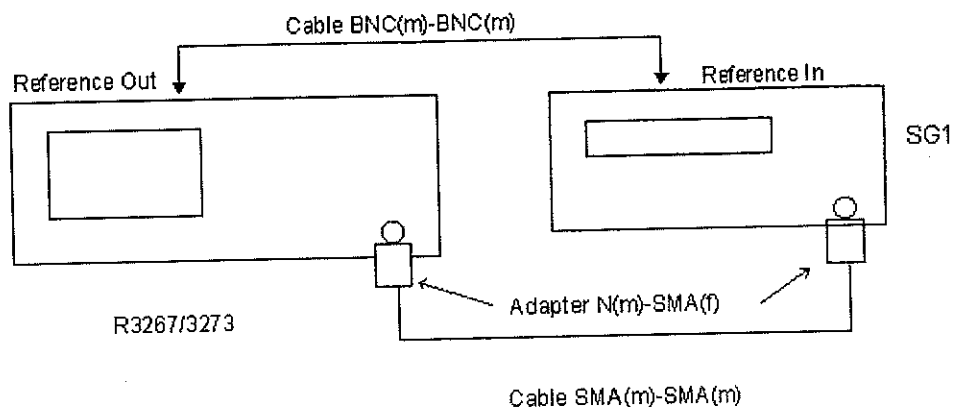

Figure 3-7 Setup of Input Attenuator Switching Accuracy Test
1. Connect equipment as shown in Figure 3-7.